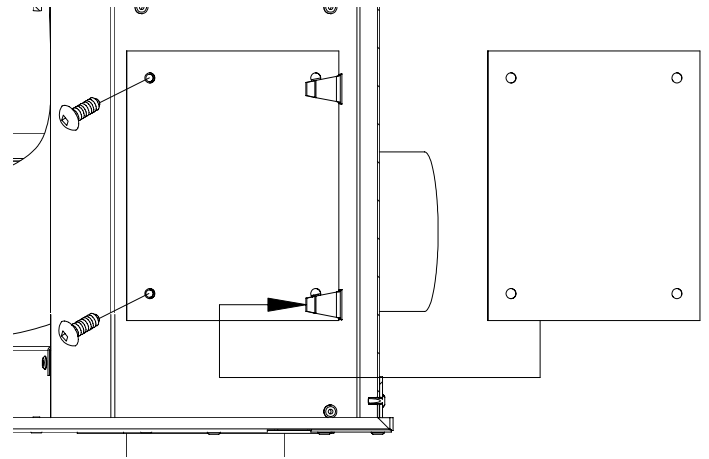

Figure 1
- 2) Seal the room air intake located on the right side by installing the plate (included) over the opening using the two clips on the right side and two screws (included) on the left side as in figure 1.